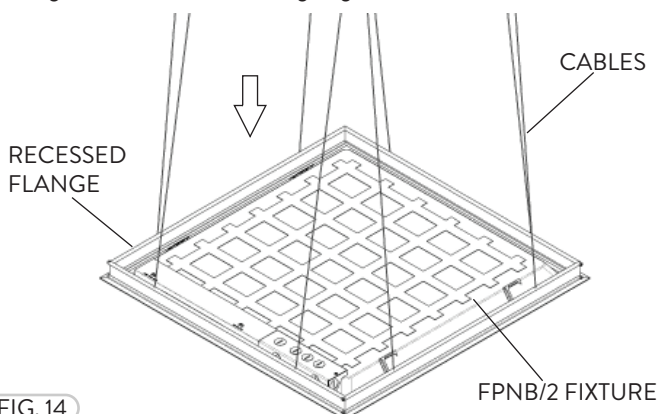

FIG. 14
- 3 After the frame is properly installed into the ceiling, one can then mount the FPNB/2 fixture. Carefully mount the FPNB/2 fixture onto the Recessed Flange and adjust any Aircraft Cables if necessary (Fig 14). Please refer to wiring diagram for wire installation.